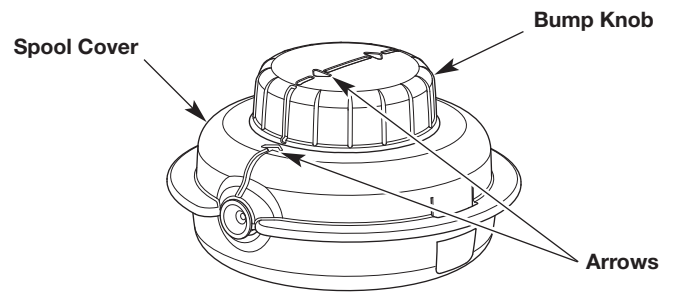

Fig. 1
3. Turn the bump knob to align the arrows on the bump knob with the arrows on the spool cover (Fig. 1).